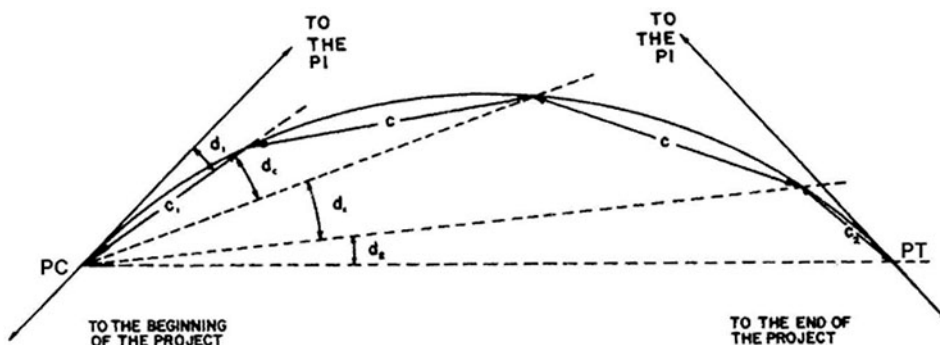

Figure 3-26. Stakeout of a horizontal curve.
The procedures below use a curve, computed earlier in the design process. Stake the curve from one of three positions: the point of curvature (PC), point of tangency (PT), intermediate setup, or any combination of the three (fig. 3-26).